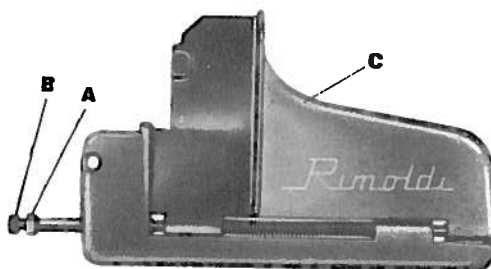

fig. 17
f) Setting of front cover plate (fig. 17)
- Setting of the front cover plate C (fig. 17) is done with the cover plate closed.
- loosen screw F (fig. 17)
- push upper knife-holder block A (fig. 17) to right or left in order to obtain the required width of seam
- tighten screw F (fig. 17)